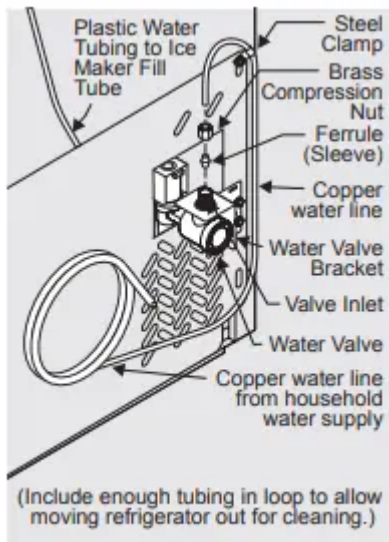

Figure 1
- 4 If you use copper tubing - Slide brass compression nut, then ferrule (sleeve) onto water supply line. Push water supply line into water valve inlet as far as it will go ($\frac{1}{4}$ inch/6.4 mm). Slide ferrule (sleeve) into valve inlet and finger tighten compression nut onto valve. Tighten another half turn with a wrench; DO NOT over tighten. See Figure 1